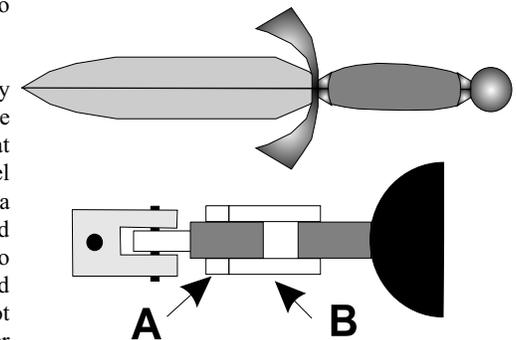

Figure 4: Radial adjustment
pommel as shown in Figure 4. All that is needed is to reverse a few of the bits. Place a lock nut (A) and a section of coupling nut (B) on the threaded end of the universal joint (both nuts having been rounded down to the same or smaller diameter as the joint itself). A section of threaded material is brazed onto the pommel instead of the coupling nut. Now, all you have to do is thread the pommel bolt into the coupling nut and tighten it down. If the pommel does not align properly, adjust the position of the coupling nut on the universal joint's bolt section, lock it in place, and try again. After a bit of adjustment, everything will align perfectly and you can have that beer you've been thinking about. A final comment - check out Brownell's EPOXY-BLACK PIGMENT (\$4.45, www.brownells.com). Mix this stuff into your epoxy and a multitude of minor flaws vanish into blackness.